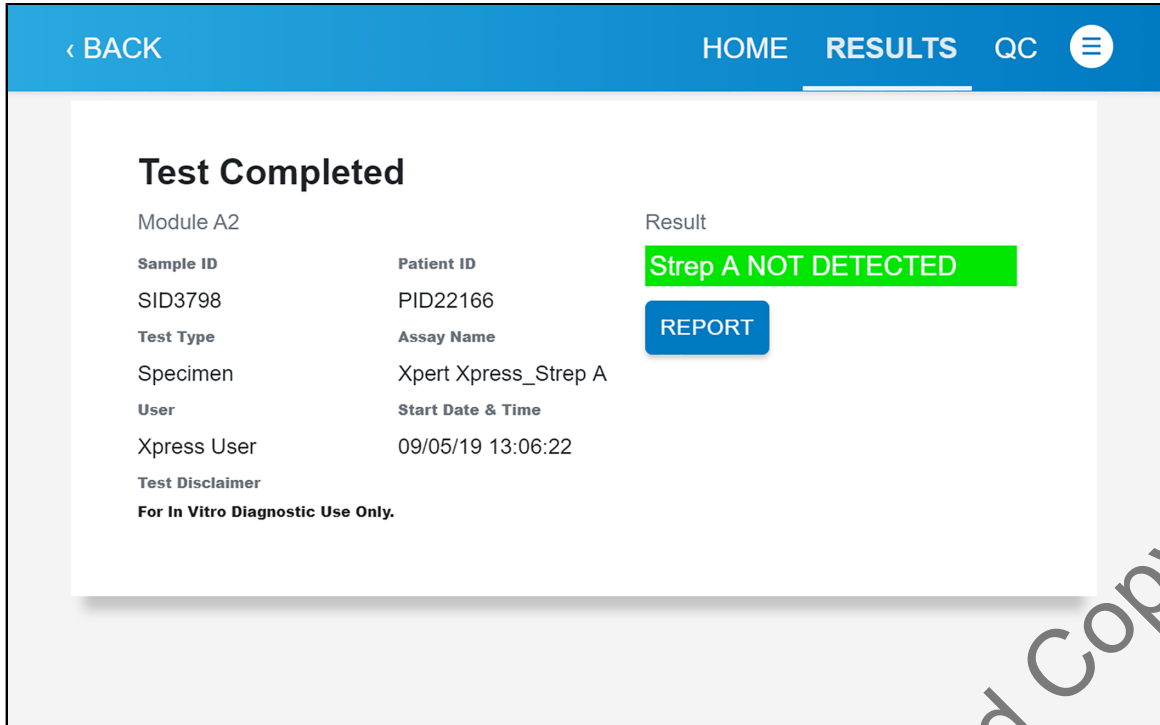

Figure 26. Test Result Screen (Example)
2. Touch the desired result to open the **Test Result** screen (see Figure 26).